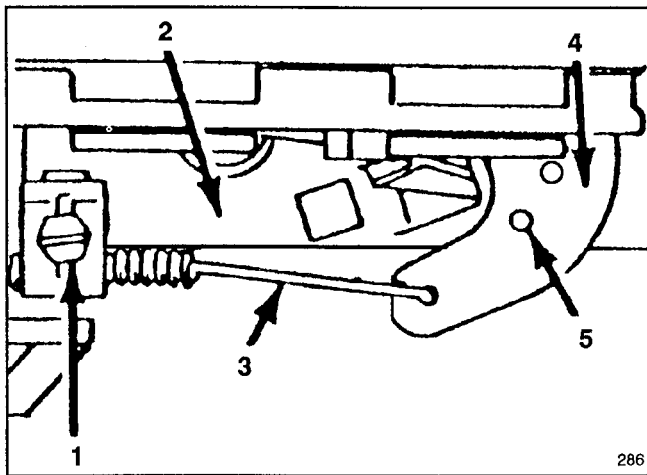

Figure 21
3. Loosen cable clamp screw until throttle cable slides (Fig. 21).
4. Move throttle cable left or right until holes in throttle lever and throttle bracket align (Fig. 21).